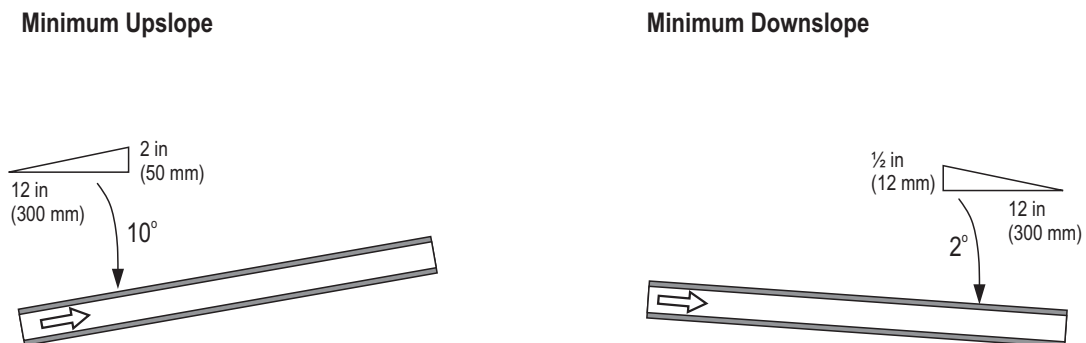

Figure 20: Steam Line Slope
- The steam line must have a constant minimum upslope of 10°, or a constant minimum downslope of 2°, as shown in Figure 20.